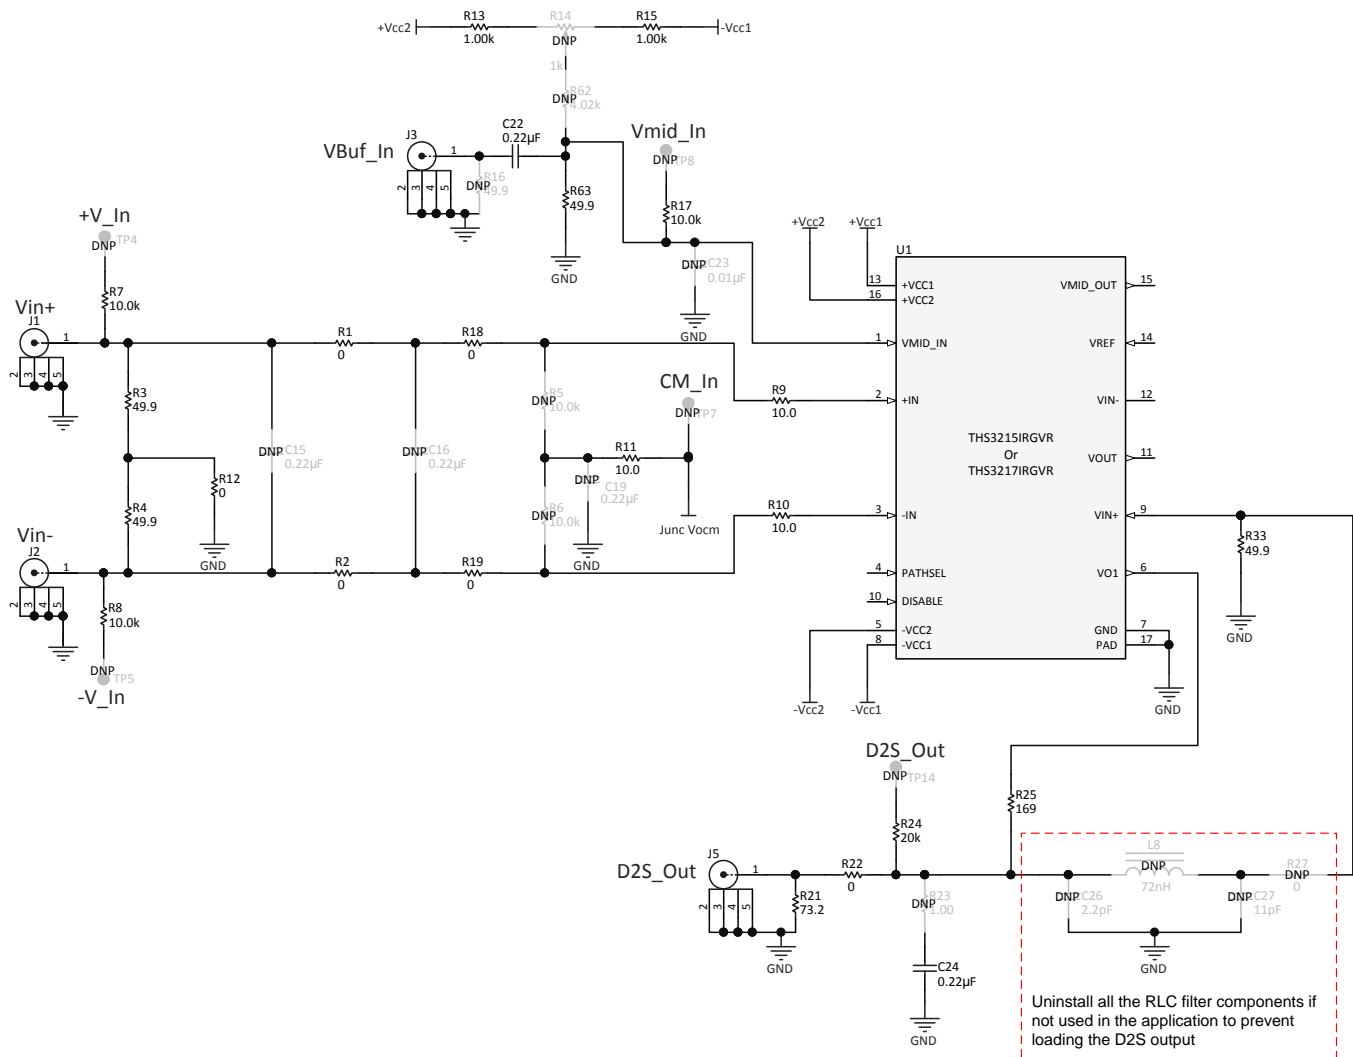

Figure 4. D2S Input Connection Options
The D2S inputs are driven by an external differential signal through SMA connectors J1 and J2. Standard lab equipment usually provides only a single-ended output. The LMH3401, a very wideband, single-ended to differential amplifier, was used during product evaluation to drive a differential signal into the D2S. The spacing of the SMA connectors on the THS321xEVM is designed to interface directly with the output of the LMH3401EVM through standard SMA barrel connectors. The THS321xEVM provides a standard 100-Ω differentially-terminated resistive network to GND, dc-coupled to the D2S input pins. Figure 4 shows the EVM schematic of the D2S input/output network with the default passive components installed. The output of the D2S can also be measured externally at J5.
2. In single-supply and ac-coupled applications, use R18 and R19 to install the appropriately-sized, ac-blocking capacitors (see Figure 4). Use the midscale buffer output in conjunction with R56, R11, R5, and R6 to set the desired dc common-mode voltage for the D2S input.
4. Certain applications may require an interstage filter inserted between the D2S and OPS to reduce overall system noise, and prevent high-frequency harmonics from previous stages propagating to the OPS output. In such situations, use C26, L8, and C27 to insert a third-order, RLC filter into the signal path of the THS321x (see Figure 4). The output of the filter then drives the external noninverting input of the OPS, VIN+ (pin 9).